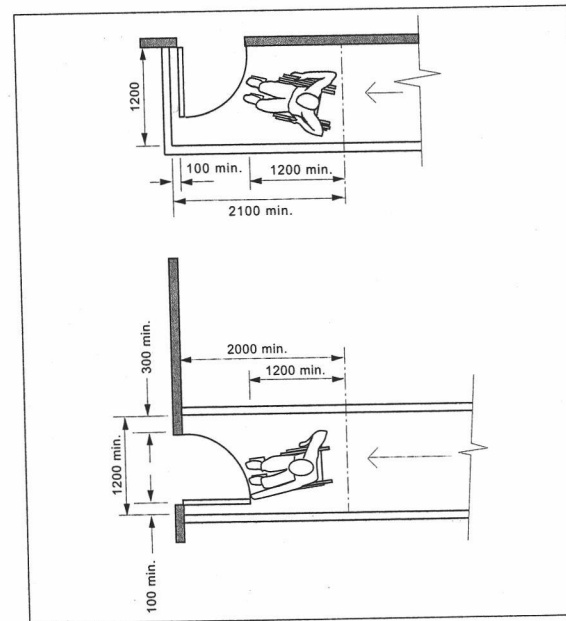

Figure 14 – Landings to outward opening doors
- Where the door opens towards the ramp, a level rest area shall be provided in accordance with figure 14;